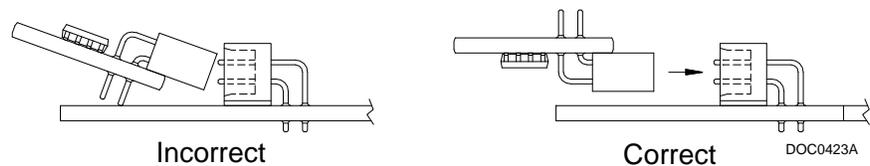

Figure 4. License Key Installation
6. Press the license key into the terminal slot until the key firmly seats (refer to *Figure 4*).